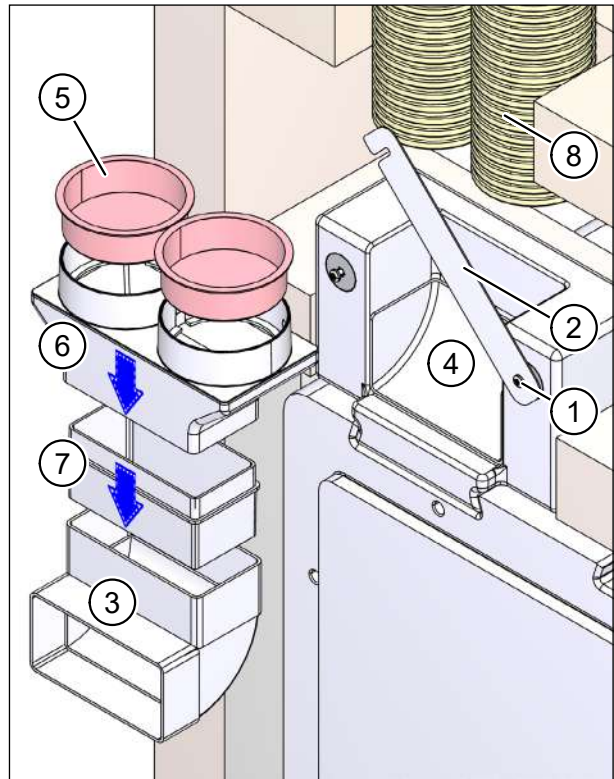

Fig. 29: Joining flexible pipe connectors and cutting flexible pipes to length
- ▶ Loosen the two cross-head screws (item 1 in Fig. 29) and lift up the bar catch (item 2 in Fig. 29).
- ▶ Remove the flat ductwork bend (item 3 in Fig. 29) from the ductwork connection adapter (item 4 in Fig. 29).
- ▶ Remove the red protective cover (item 5 in Fig. 29) from the flexible pipe adapter (item 6 in Fig. 29) M-WRG-FRA75 (part no. 5056-00/75).
- ▶ Insert the fitting adapter M-WRG-FSA lang, part no. 5375-00 (item 7 in Fig. 29) into the flat ductwork bend (item 3 in Fig. 29).
Make sure that you insert the fitting adapter so that the short side points up (see item 7 in Fig. 29).
- ▶ Attach the flexible pipe adapter (item 6 in Fig. 29) to the fitting adapter (item 7 in Fig. 29) and seal the join with a layer of sealing tape 30 mm wide.
- ▶ Insert the assembled flexible pipe connectors (items 3, 6 and 7 in Fig. 29) into the ductwork connection adapter (item 4 in Fig. 29) to test the fit.
- ▶ Shorten the flexible pipes (item 8 in Fig. 29) so that they can be inserted into the flexible pipe adapter (item 6 in Fig. 29).